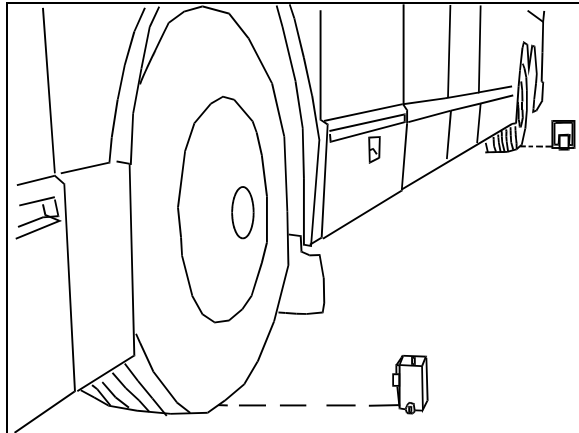

FIGURE 45: INSTALLING CALIBRATION FIXTURES 06497
7. Install a calibration fixture in the axis of front axle wheel and one in the axis of rear axle wheel (Figure 45).